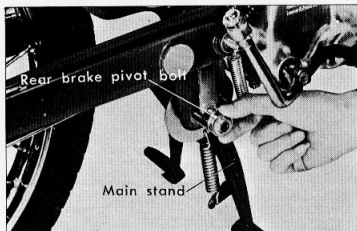

Figure 4-35. Removing brake pedal and stand
- (1) Remove the exhaust pipe and the muffler.
- (2) Remove the brake rod from the brake arm by loosening the brake adjusting nut, then remove the brake pedal spring and the main stand spring.
- (3) Place a suitable stand under the engine and remove the rear brake pivot pipe by removing the 8 mm hex. nut fixing the rear brake pivot pipe, and the 3mm cotter pin; and by pulling out the rear brake pivot pipe, the stand and brake pedal can be removed from the frame as a unit. (Fig. 4-35)
- (4) Remove the step bar from the crankcase by removing the 8 mm hex. bolts.